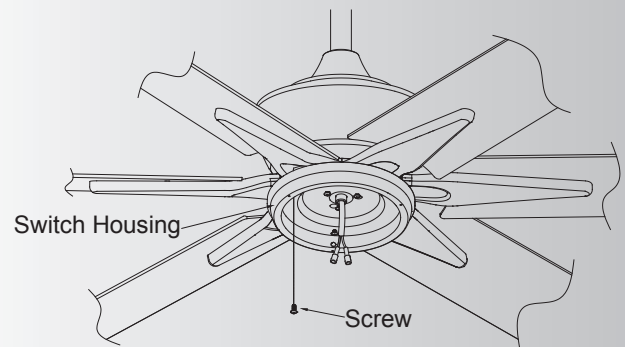

Fig. 20
Step 1. If installing with steel cap and no light kit, skip to step 4 on page 9. Remove one of the three screws in the switch housing. Retain the screw for later and slightly loosen the remaining two screws. (Fig. 20)